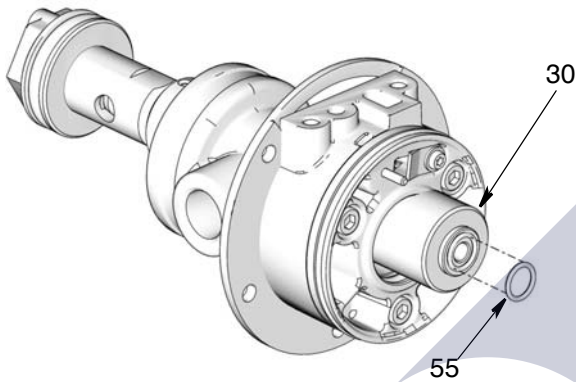

Fig. 27
1. Install o-ring (55) in groove on the end of the displacement rod (30) (Fig. 27).